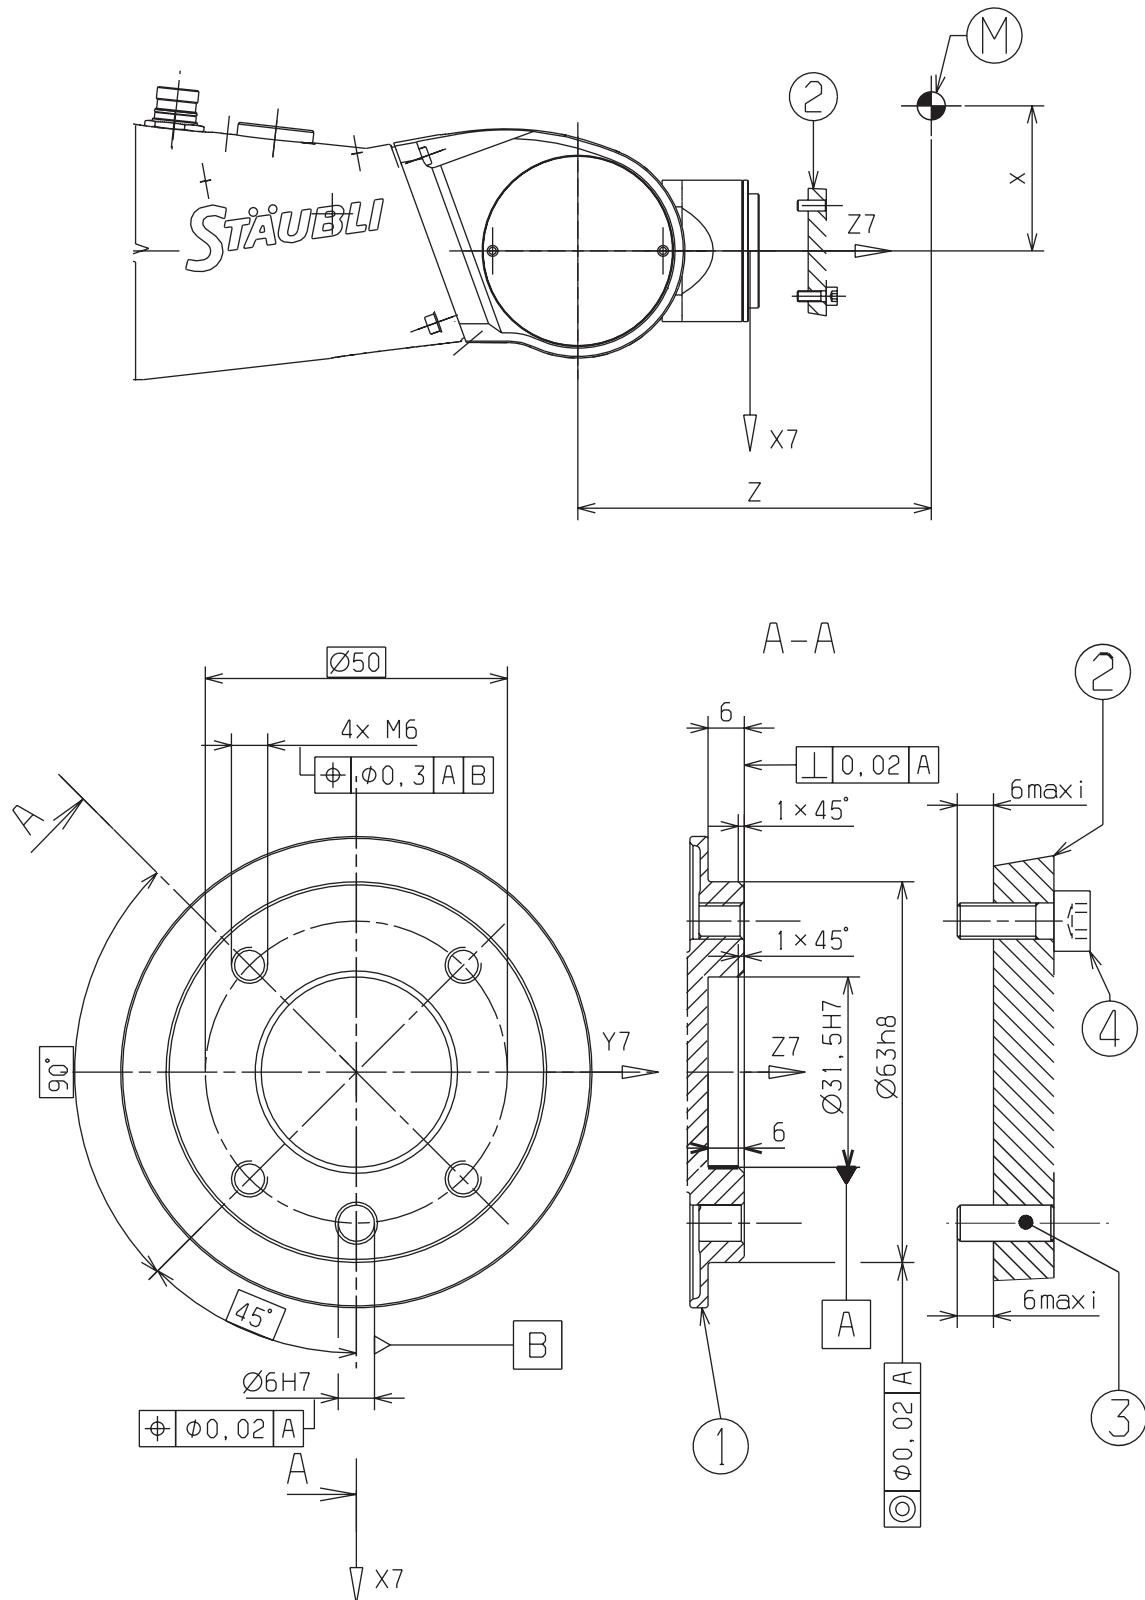

Figure 1.7
See **figure 1.7**.
The end-effector is installed on the mechanical interface of the wrist dimensions of which are given on **figure 1.7**.
Length of end-effector attaching screws is limited to avoid all interference with the wrist (figure 1.7).
1.6.1. LOAD CAPACITY (figure 1.7)